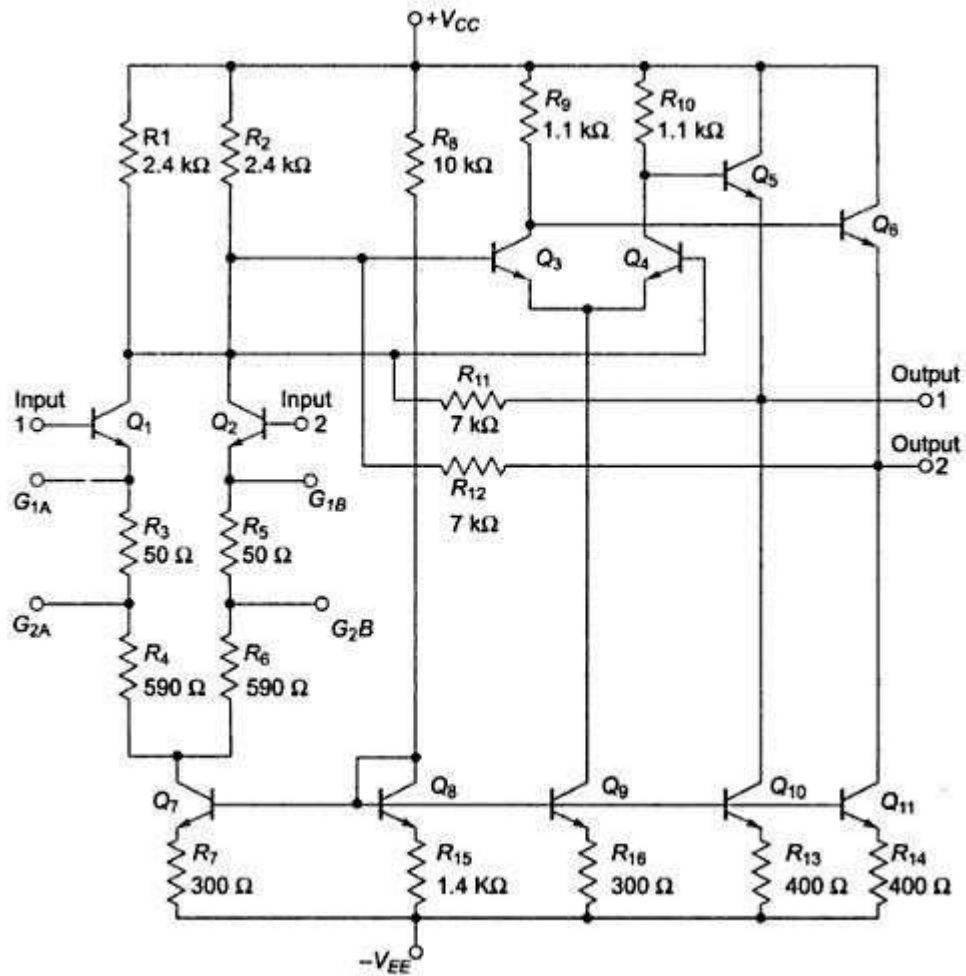

Figure 5.12.2. Monolithic video amplifier
Video amplifiers are a special type of wide band amplifier that also preserve the DC level of the signal and are used specifically for signals that are to be applied to CRTs or other video equipment. The video signal carries all the picture information in TV, video and radar systems. The bandwidth of video amplifiers depends on use. In TV receivers it extends from 0Hz (DC) to 6MHz and is wider still in radar. Monolithic video amplifier is shown in figure 5.12.2.